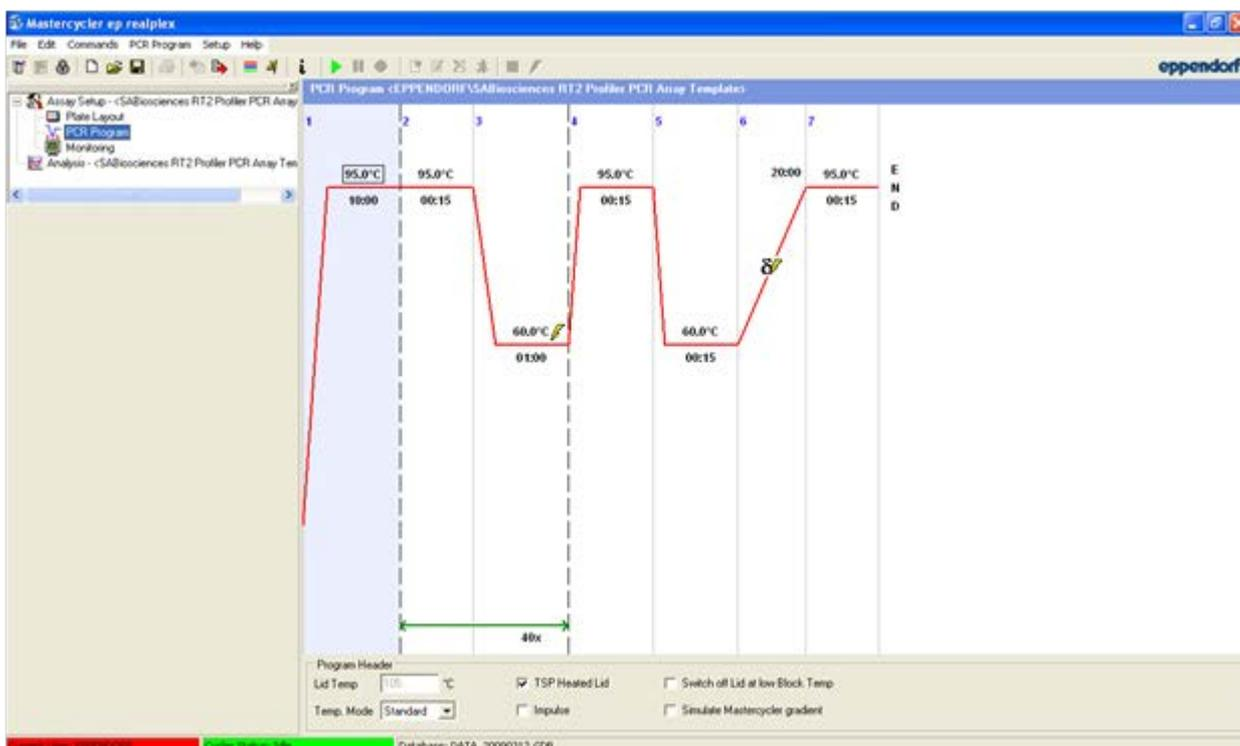

Figure 8: Final "PCR Program" screen.
2. When the "PCR Program" setup is complete, the window should appear as in Figure 8.